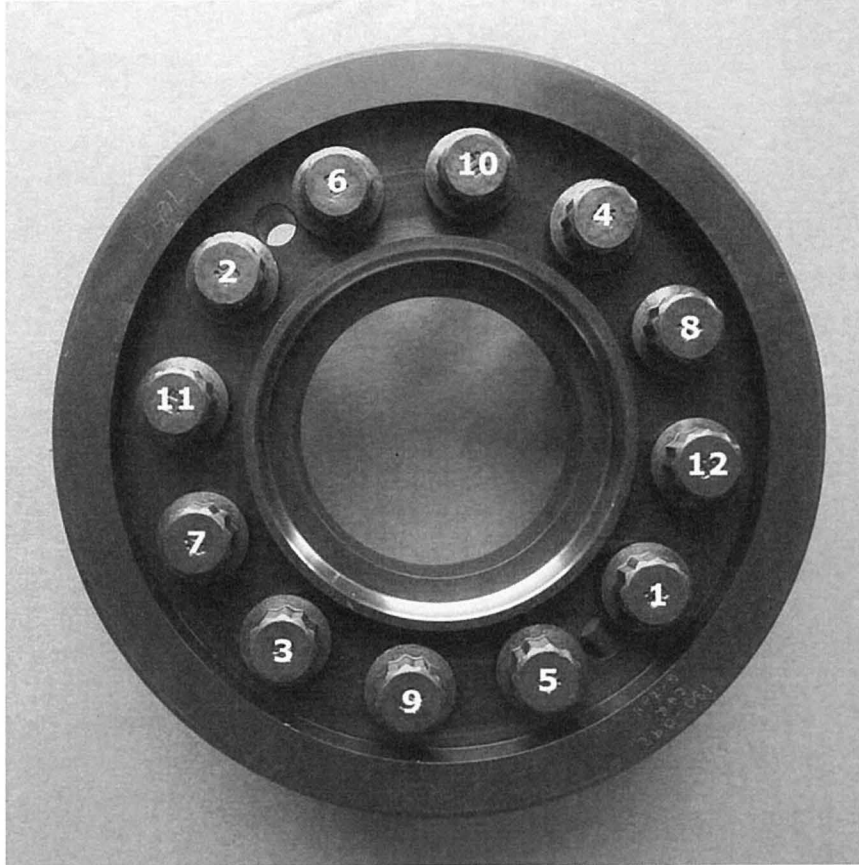

FIGURE 14
13. Using all of the bolts install the bearing retainer plate with the shim pack. Initially torque all bolts to 120 ft. lbs. using torque sequence shown in **(Figure 14, PAGE 29)**. **Remember to rotate wheel to align rollers in bearings as bolts are torqued.** Now continue torquing all bolts in 40 ft. lbs. increments to final 280 ft. lbs. (+28/-0) using torque sequence shown. Retorque until bolts no longer move at specific torque.